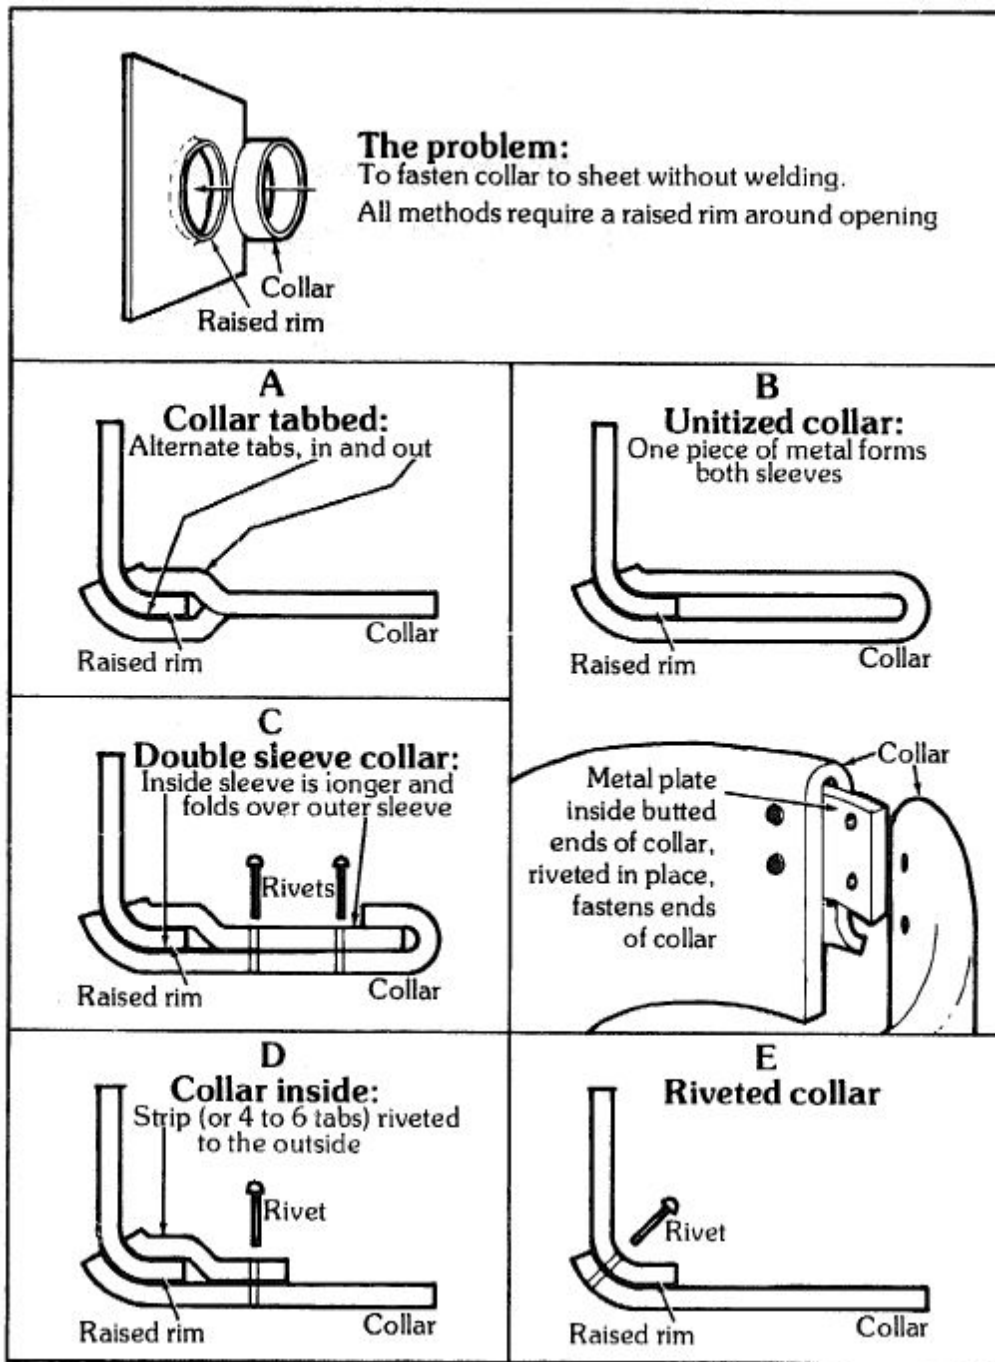
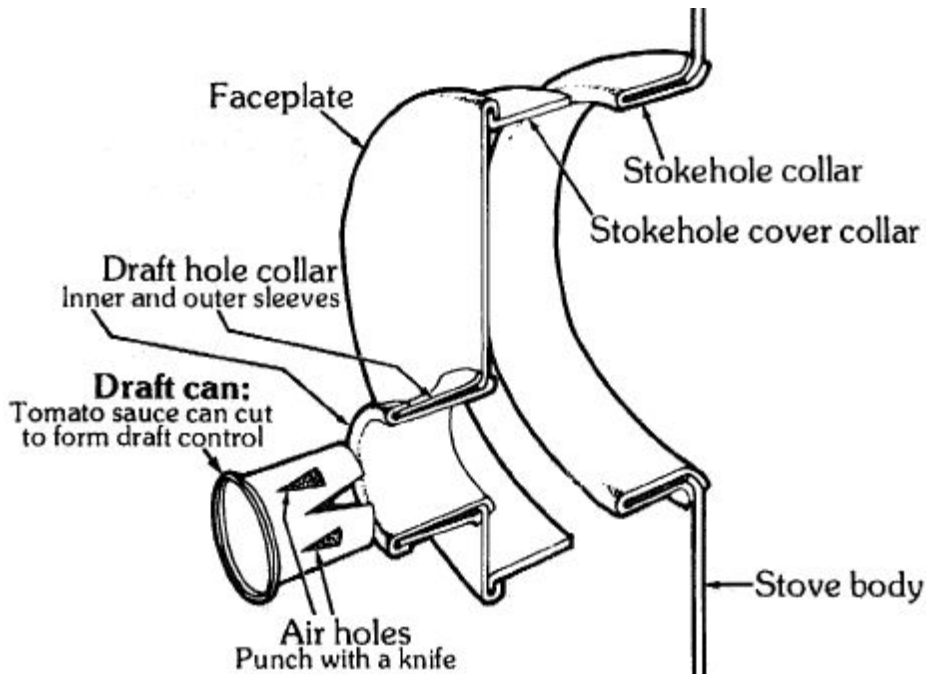

Figure 13.13 - Five ways of attaching a collar to a sheet.
Figure 13.21 - Stokehole cover and draft system.
7. Form the stovepipe collar. There are at least five ways to fasten a collar to a stove body without welding, as shown in Figure 13.13. In every case you form the collar first, since it is far easier to cut a hole to fit an existing collar than it is to make a collar to fit an existing hole. Then you cut a hole in the stove body, somewhat smaller than the collar, and turn up its edge to form a shallow, volcano-like rim. Part of the collar metal grasps the inside of this rim, and part grasps the outside - so that the finished collar can't slip either in or out - or else the collar is riveted to the rim.
To build the stovepipe collar by the method shown in Figure 13.13, Drawing A, use a section of 5-inch or 6-inch stovepipe as a form and shape a 2-1/2-inch-wide strip of metal around the crimped end, allowing a 1/2-inch overlap. For the best fit, arrange the overlap to nest with the seam of the pipe. Mark the strip and rivet twice through the overlap to tie the collar together. A six- or eight-penny nail with most of the shank removed makes a fine rivet.
Although this is the quickest and easiest way to attach a collar to the stove body, it is also the least airtight and the most likely to drip when condensate runs down the pipe. Unless you're pressed for time, I'd suggest one of the other methods shown in Figure 13.13.
8. Form and mount the stokehole collar. Here we'll use the method shown in Figure 13.13, Drawing B. This type of collar is the most airtight, the tidiest, and to my mind, the most elegant of the bunch. Cut a strip of metal 23-1/2 by 5 inches. Draw a line along the length of the strip on the painted side, 2-3/8 inches from one edge. Score lightly and fold over to form a doubled strip. Carefully form this into a circle, leaving the shorter side of the fold out.
13. Make the stokehole cover collar. (See Figure 13.21). Measure around the outside of the stokehole collar to get the length of the strip you need, allowing 1/2 inch for overlap. Cut the strip 2-1/4 inches wide and mold it to the stokehole collar so that it slides on and off with a smooth, gentle friction fit. A collar that is too tight makes it hard to get the cover on and off, and one that is too loose admits too much air for best control of the fire. Rivet it twice through the overlap.
15. Form the draft hole collar. The draft system is also shown in Figure 13.21. A tin can, with air holes cut as shown, slides inside a small collar in the stokehole cover faceplate to admit varying amounts of air to the firebox. This collar is constructed according to the method shown in Figure 13.13, Drawing C. First, obtain a soup or tomato sauce can to use as a form in rolling the strips. Carefully measure the circumference of your can and cut a sheet of metal just a shade longer and 3 inches wide. You want the sheet to go all the way around the can and just butt up edge to edge, with a gently snug fit.
16. Cut the draft can. After removing one end and the rim, cut the draft can to the pattern shown in Figure 13.21. Pushing the can all the way into the draft hole collar closes the draft completely; pulling it out various distances gives varying amounts of air to the fire; removing it from the collar completely allows a strong blast of air to rush through the tube onto the coals. A simple handle can be riveted onto the bottom of the can to aid in manipulating it.